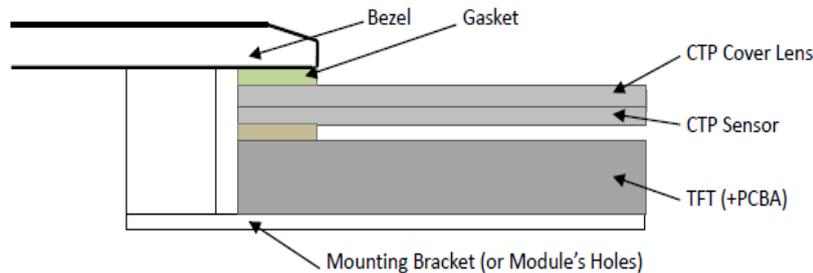

Figure 1
7.1 Bezel Mounting (Figure 1)
7.1面框安装（附图1）